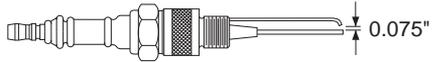

Figure 8 - Spark Plug Gap
5. Clean and regap spark plug electrodes to 0.075" (see Figure 8).